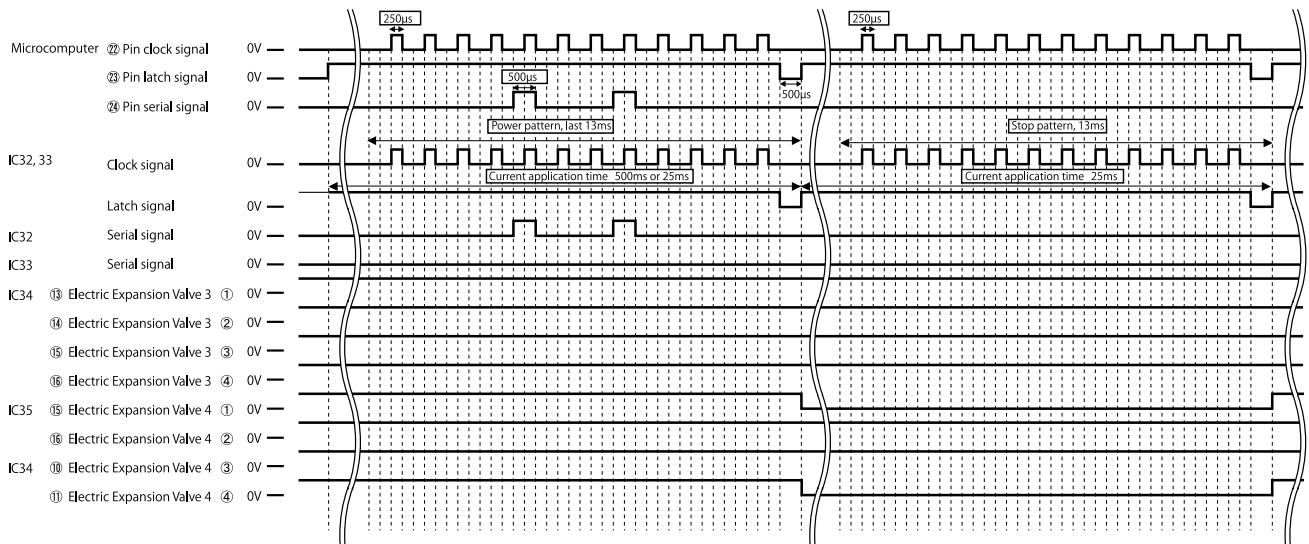

Fig. 5-3 Time Chart
- An example of circuit operation when an expansion valve is powered is shown in the time chart in Fig. 5-3.
- ① A clock signal (16 cycles at $750\mu\text{s}/\text{cycle}$) is output from pin ② on the microcomputer. (One cycle for the clock signal is $500\mu\text{s}$ off, $250\mu\text{s}$ on.)
- ② A serial signal #1 of the power pattern is synced with the clock signal and output from pin ④ of the microcomputer. #1 The serial signal is the pattern of the current applied to phase 1 or phase 2 of a 4-phase wound wire on an expansion valve, that has then been converted to serial format. A serial signal is output so that the center of the ON serial signal (Hi-level $500\mu\text{s}$) aligns with the rising edge of the clock signal.